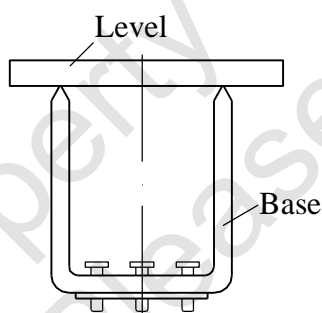

Fig.1
- The wheel balancing base must be leveled (Fig.1)